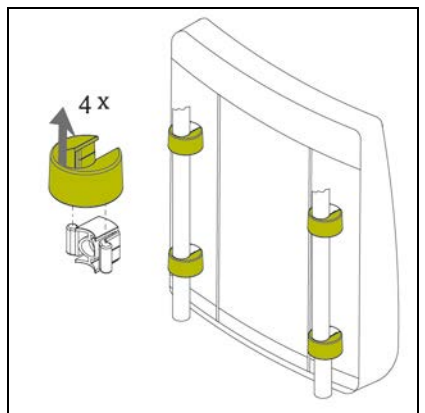

Figure 3.3
**Removing the backrest** (fig 3.3).
**Replacing the Backrest** (fig 3.3).
**Replacing the armrest** (fig 3.3).